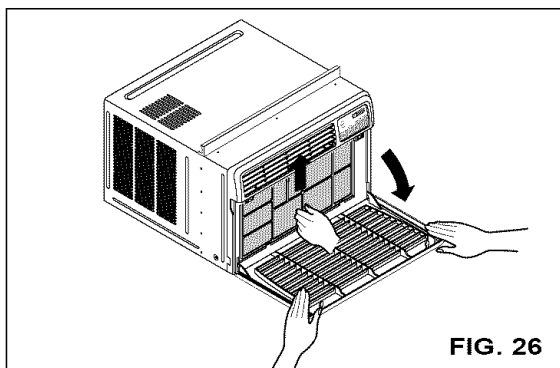

FIG. 26
- Pull the inlet grille forward, grasping both tabs, then pull out the air filter. (FIG. 26)